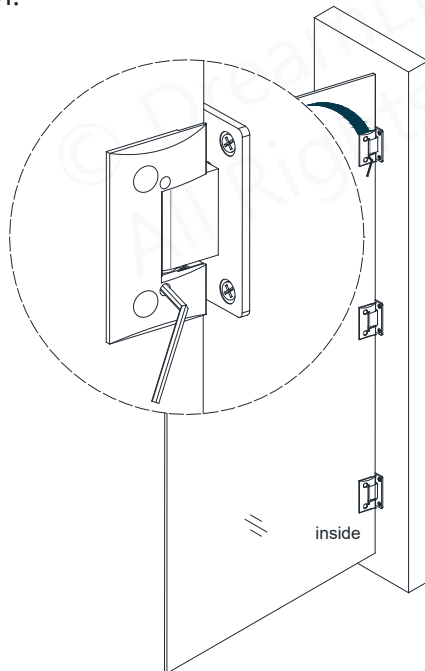

**Fig 1b**
**3)** Use the supplied Allen key to loosen the adjustment screws on the inside faceplates (**Fig 1b**), adjust the door to the desired closing angle (90° for example), then re-tighten the adjustment screws (**Fig 1b**). Be sure to create a tight seal with the strike vinyl when the door is in the closed position.